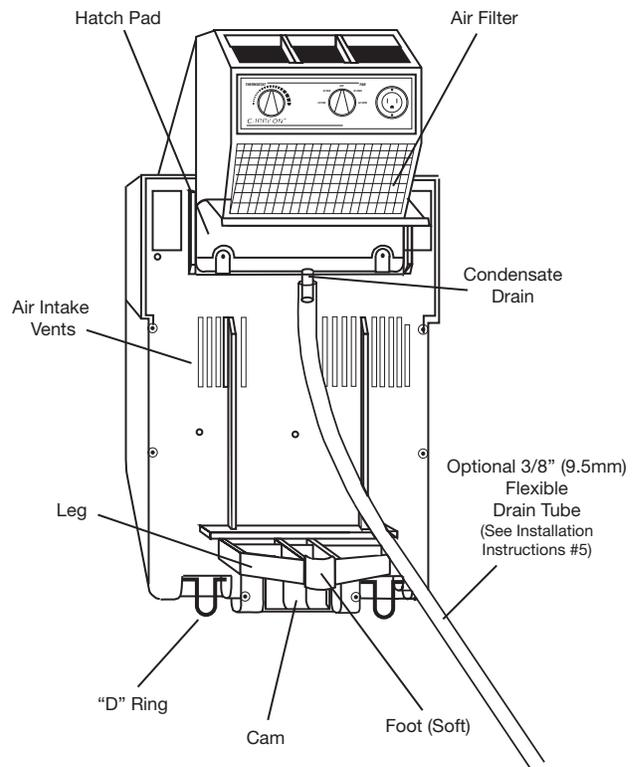

Figure 4. Bottom View of Carry-On
5. A condensate drain is located under the unit (See Figure 4) in a position such that water removed from the air is allowed to drain onto the deck. Should you desire to drain this water to another area, a 3/8 in. I.D. (See Figure 4) hose fits the condensate drain.
Remove filter (see Figure 4.) Gently wash by hand in a solution of mild soap and warm fresh water. Allow water to drain and reinstall. Extra filters may be ordered from your dealer.